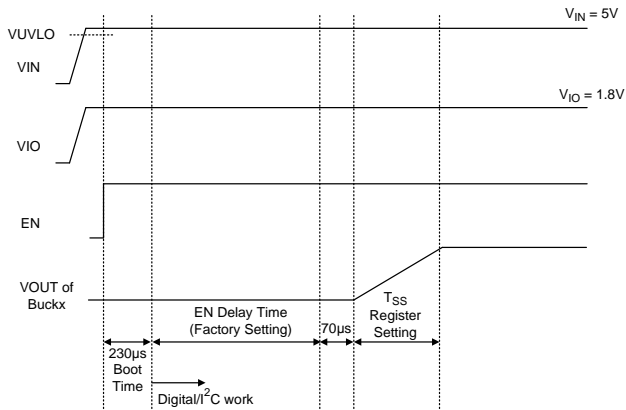
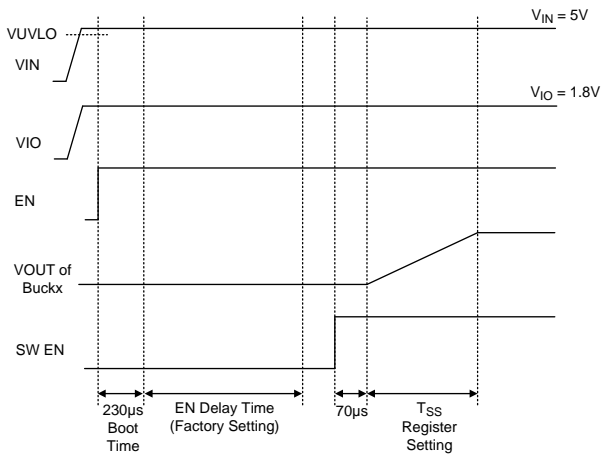
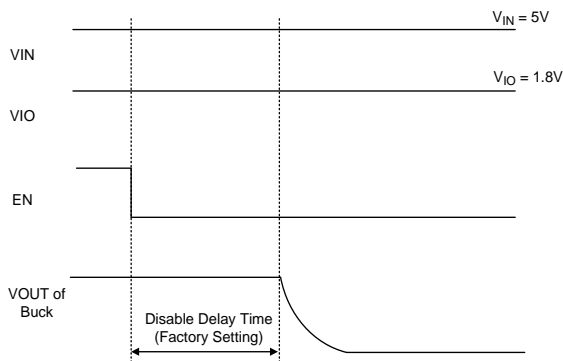
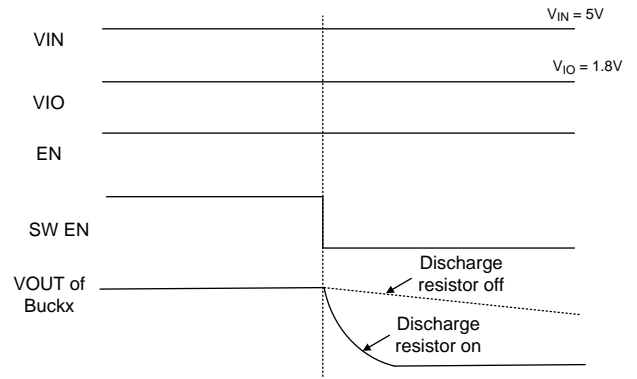

Figure 3. Start-up Sequence
Figure 4. Start-up Sequence by Software
Figure 5. Power-off Sequence
Figure 6. Power-off Sequence by Software
enable control, to enable or disable the device. If V_{EN} is held below a logic-low threshold voltage (V_{ENL}) of the enable input (EN), the converter will enter into shutdown mode and reset all digital function (I^2C), that is, the converter is disabled even if the VIN voltage is above VIN under-voltage lockout threshold (V_{UVLO}). During shutdown mode, the supply current can be reduced to I_{SHDN} (20 μ A or below). If the EN voltage rises above the logic-high threshold voltage (V_{ENH}), the device starts switching. When appropriate voltages are present on the VIN, AVIN, VIO and EN pins, the RTQ2134 will begin digital function, switching and initiate a soft-start ramp of the output voltage. After the device is turned on and VIO is ready, all digital functions including I^2C communication start to work in a boot time with 230 μ s (typ.). The voltage of VIO can be used to supply power to digital function and it is recommend that enable the device after VIO voltage is ready. The RTQ2134 supports enable delay time setting (factory setting) and soft-start slew rate setting for each Buck. The soft-start function is used to prevent large inrush current while the converter is powered up. Register 0x55[5:4], 0x6F[5:4] and 0x89[5:4] let soft-start time of each be programmable. The start-up sequence is shown in Figure 3. IC also implements enable control by software, it can be set in the registers: 0x49[0], 0x4B[0], 0x63[0], 0x65[0], 0x7D[0] and 0x7F[0]. If the output voltage of Buck is default disable which is only set by factory, the output voltage starts to ramp up by software and the Figure 4 shows the start-up sequence. For disable function, the device supports disable delay time setting (factory setting) by external EN pin and the output voltage ramps down with default discharge resistor. The discharge resistor can be controlled to on or off by register 0x42[0], 0x5F[0] and 0x79[0] when the converter is disabled by software. The power-off sequence is shown in Figure 5 and Figure 6.